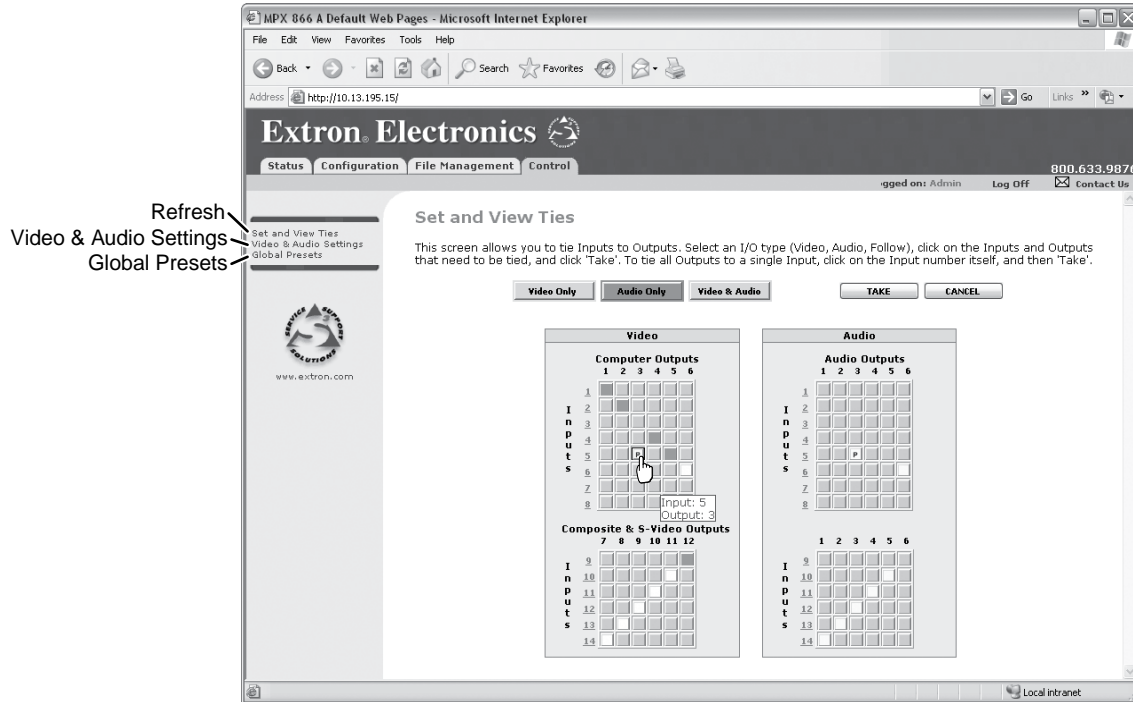

Figure 63. Set and View Ties Page
You can create ties on the Set and View Ties page (see figure 63). Access the Set and View Ties page by clicking the **Control** tab.
- If you lose track of the input and output associated with a specific button, let the mouse pointer rest over a button for a moment. As shown on figure 63, a field pops up that identifies the input and output for that button.